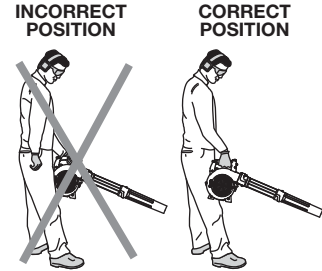

Fig. 15
WARNING: After starting the unit, always stand on the left side of the unit to operate it as shown in figure 15 to keep from blocking the air intake.
- Hold the blower with the right hand.** Do not stand on the right side of the blower when operating the unit (Fig. 15). If you do, you will be blocking the air intake and this will affect the unit's performance. Instead, be sure to stand on the left side of the unit to maximize the unit's efficiency (Fig. 15).